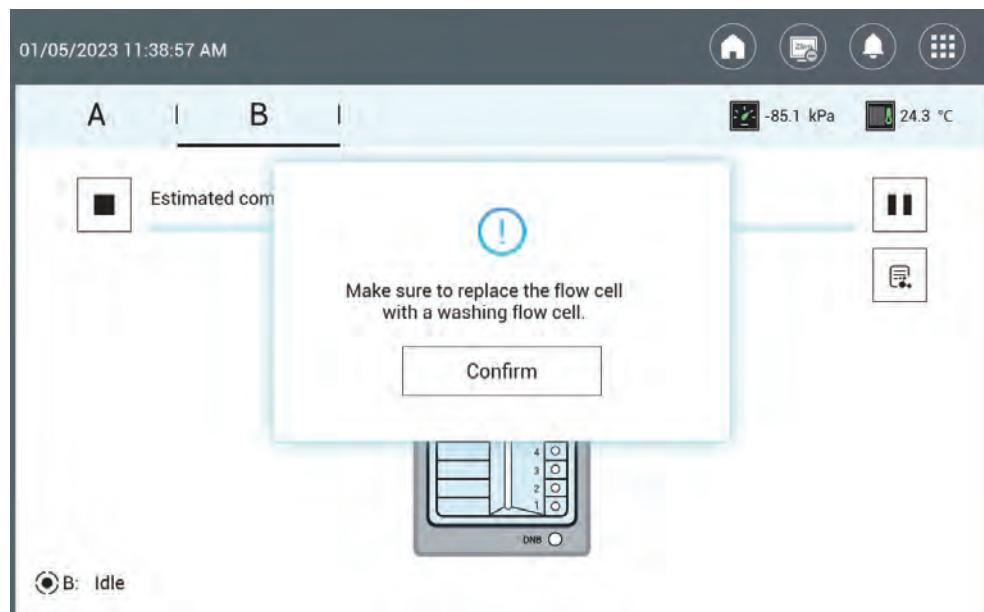

Figure 36 DL-T7RS flow cell loading complete status interface
16. The process takes around two hours. When the screen is shown as *Figure 36* on Page 76, the flow cell loading is complete.
18. When the loading is complete, install the washing flow cell onto the flow cell stage and press the flow cell attachment button. Close the flow cell compartment door. Select **Confirm** as shown in *Figure 36* on Page 76.